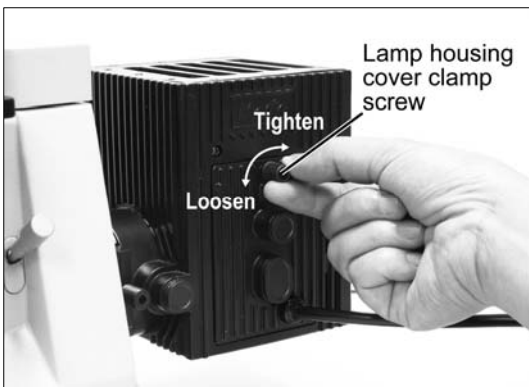

Fig.4-1
- Loosen the lamp housing cover clamp screw (Fig.4-1) and remove the cover (Fig.4-2).